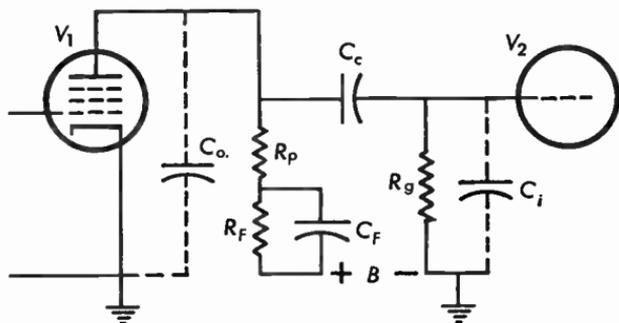

Fig. 11.39a Resistance-capacitance coupled amplifier with the low-frequency compensation circuit $R_F C_F$.
11.39 In the video amplifier of Figure 11.39a, $R_p = 2000$ ohms, $R_F = 5000$ ohms, $C_F = 8$ microfarads, $R_g = 1$ megohm, $C_c = 0.04$ microfarad, $C_o = 5.2$ micromicrofarads, $C_i = 10.4$ micromicrofarads, V_1 has a $g_m = 7700$ micromhos, $r_p = 100,000$ ohms. Calculate the voltage gain at 10 cycles (a) without, (b) with the compensating circuit $R_F C_F$.